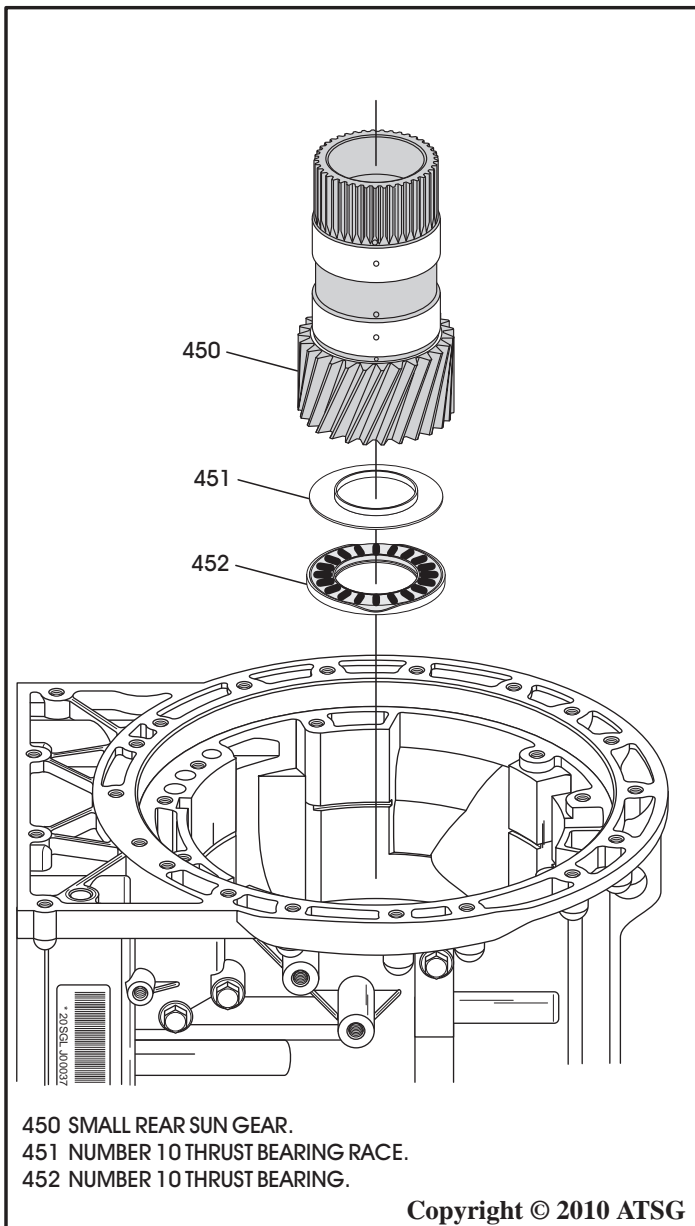

Figure 63
50. Remove small rear sun gear and shaft assembly, as shown in Figure 63.
51. Remove the number 10 thrust bearing and race, as shown in Figure 63.